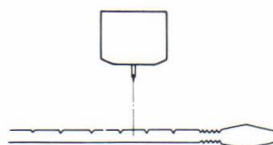

Fig. 23
3. Set the Turntable (35) and Turntable sheet (56), place test record RG325 on the Turntable (35) (detach the Belt (36) from the pulley), then press the left feed button (6) and move the Tonearm (22) so that the Stylus (22-1) is positioned between the grooves in the test record with the large pitch (5mm pitch). (Figure 23)